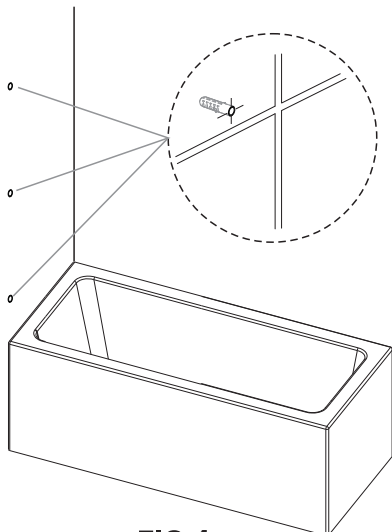

FIG 1
1. Bathscreen is reversible, choose which handing is required ensuring that the glass coated side is always on the inside of the bath. Silicone the top pivot bracket and bottom pivot bracket, and then insert into the round profile. Fig 1, 1A-1D.
1. Replace current wall plugs if required with MERLYN wall plugs supplied with Easy-Fit profile to ensure bath screen will be secure. (FIG 1)